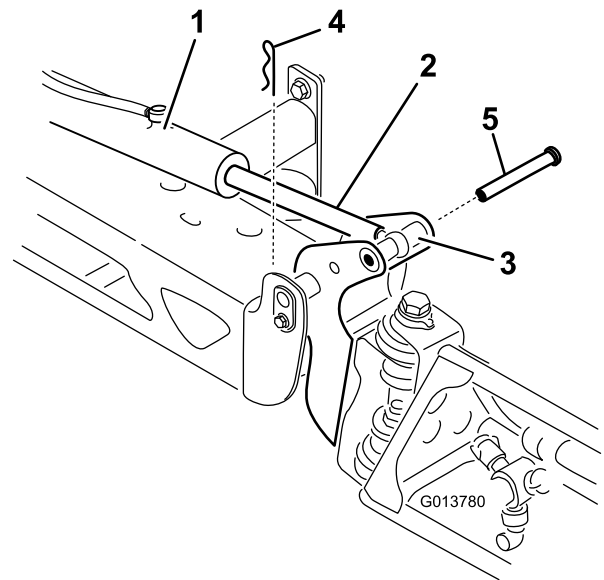

Figure 13
2. Remove the cotter pin from the pivot pin (Figure 13).
3. Lift up on the boom and remove the pin (Figure 13), and slowly lower the boom to the ground.
- Raise the boom to align the pivot with the actuator rod. While holding the boom, insert the pin through both boom pivot and actuator rod (Figure 13).